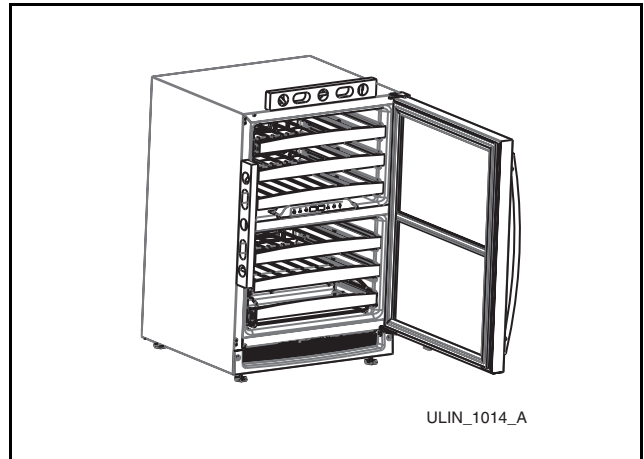

Figure 12. Leveling the Unit
1. Use a level to check the levelness of the unit from front to back and from side to side. Level should be placed along top edge and side edge as shown (**Figure 12**).